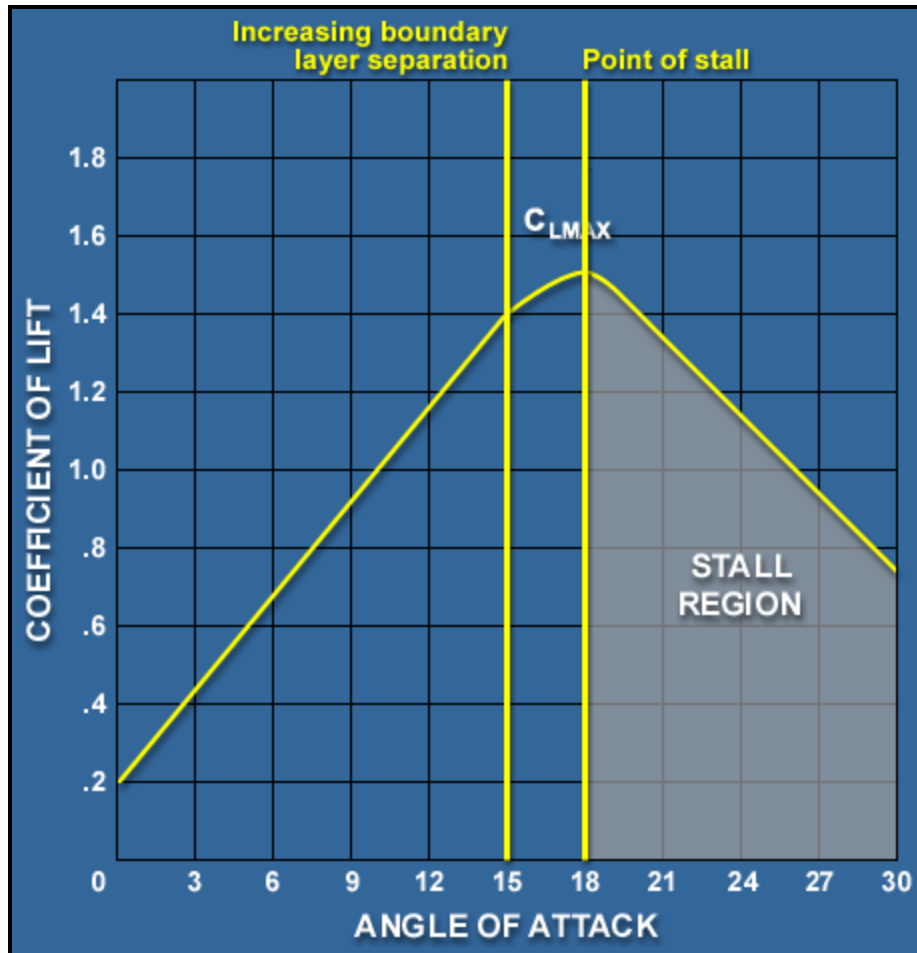

**Figure A-2 Body Axis System**
**BODY AXIS SYSTEM:** The system by which the axis of flight or aircraft movement are determined (Figure A-2).